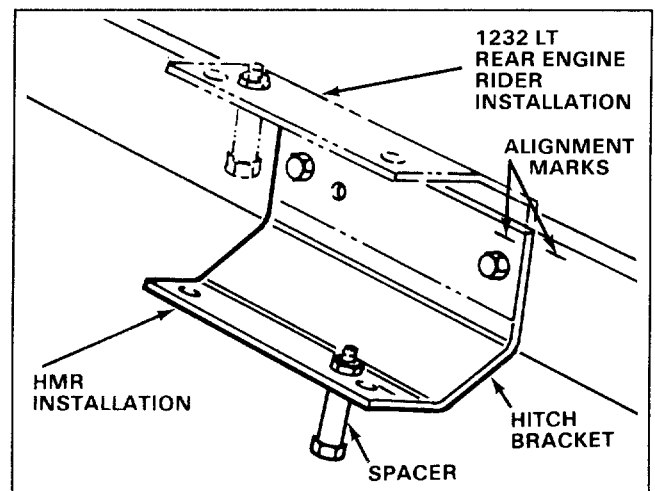

Figure 3
1. When mounting hitch bracket for installation on a rear engine rider, position hitch bracket in upward position (Fig. 3). Mount bracket in downward position on HMR 1200 installation. Make sure marks on hitch bracket and grass catcher frame are aligned, to assure proper mounting holes are used in each application.
2. Secure hitch bracket to grass catcher frame with (2) capscrews (7/8" lg.) and locknuts (Fig. 3).
3. Mount a spacer to hitch bracket with a capscrew (7/8" lg.) and locknut. Spacer to be positioned downward from bracket (Fig. 3).